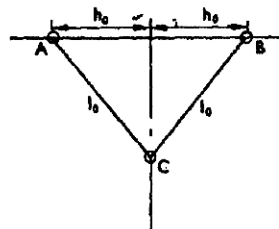

Fig.3(b)
- (b) Fig.3(b) shows initial configuration (i. e. before application of load) of a structure consisting of two bars AC and BC pin-jointed at A, B and C and their initial cross-sectional area is  $A_0$ . Bars AC and BC are of metal whose true stress and engineering strain curve is expressed by  $\sigma = B\phi m$ . Considering tensile instability show that